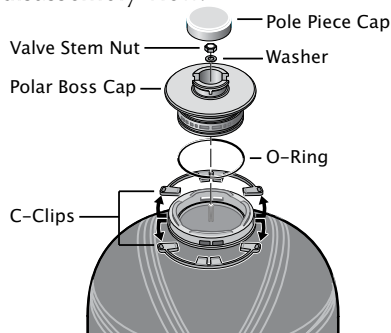

Figure 7: Remove Pole Piece Cap, Valve Cap and Retaining Nut, Clips, and Polar Boss Cap.
7. Remove the polar boss cap. See Figure 7 for an overall disassembly view.